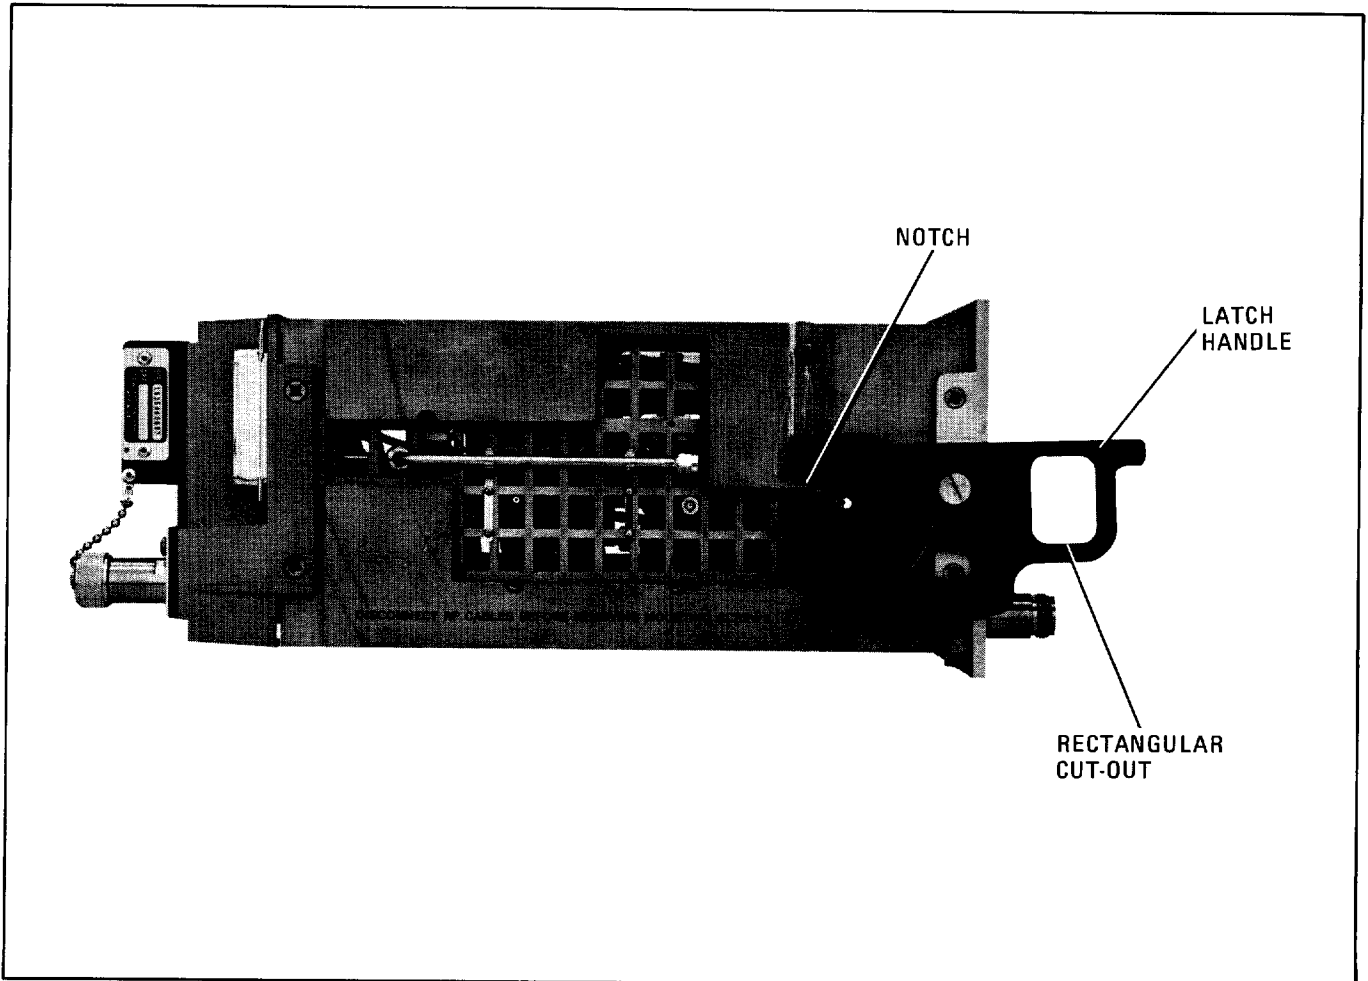

Figure 2-3. RF Plug-In Latch in Release Position
- b. Position latch handle located on left side of RF Plug-In so it is perpendicular to front panel. Portion of handle with rectangular cut-out should be facing forward and portion with notch should be facing rear of RF Plug-In as shown in Figure 2-3.
- a. Push inward on top of latch handle, shown in Figure 2-3, and pull forward and up on bottom of latch handle.